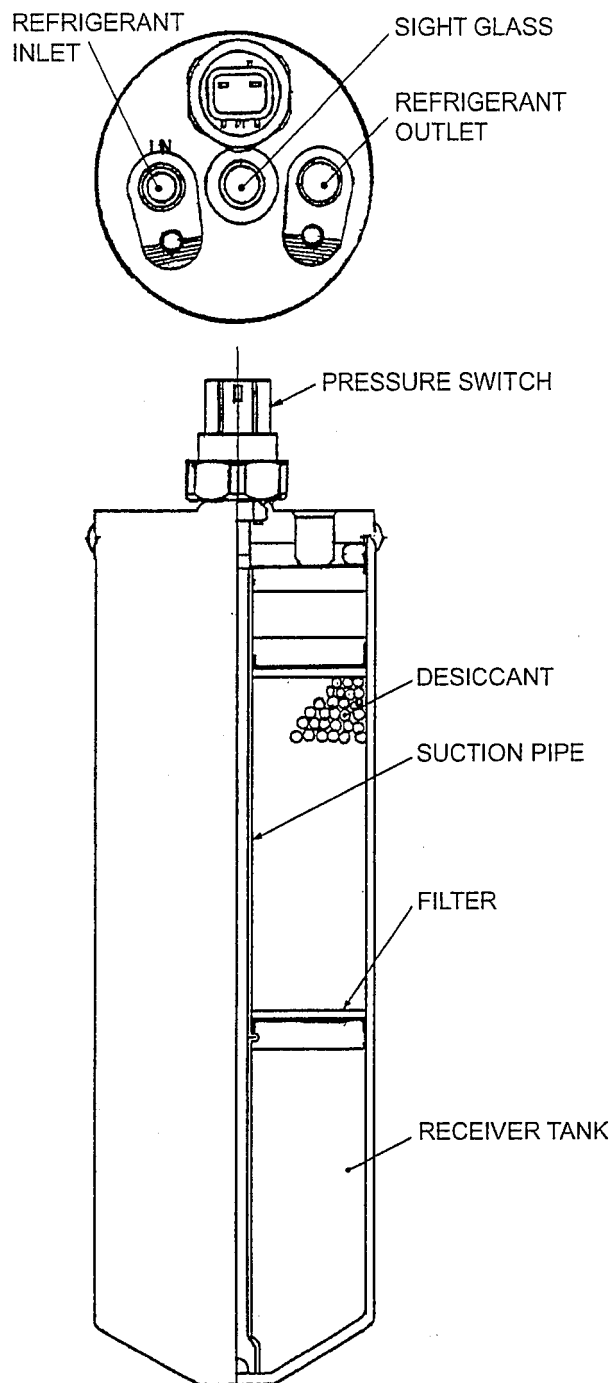

Fig. 25-13 Receiver dryer
## (5) Receiver Dryer (See Fig. 25-13)